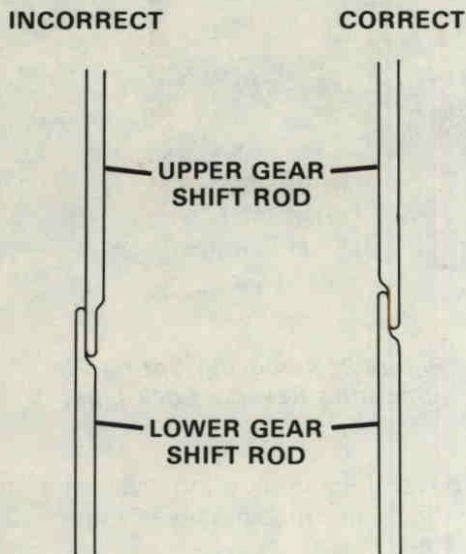

Figure 6. Proper Assembly of Gear Shift Rods.
- D. Position gear housing so that gear shift rods are lined up as in Figure 6.